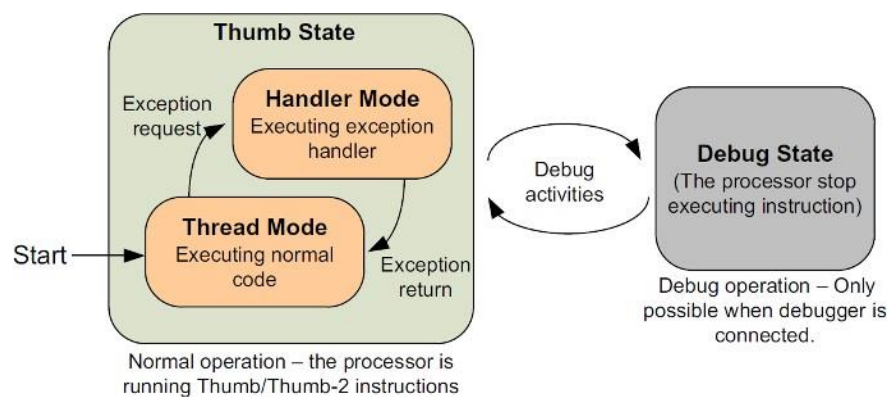

Figure 5: Processor modes and states in the Cortex-M0 processor
i. The Cortex-M0 processor has two operation modes (Thread mode or the Handler mode) and two states (Thumb and Debug state) as in the Figure 5.